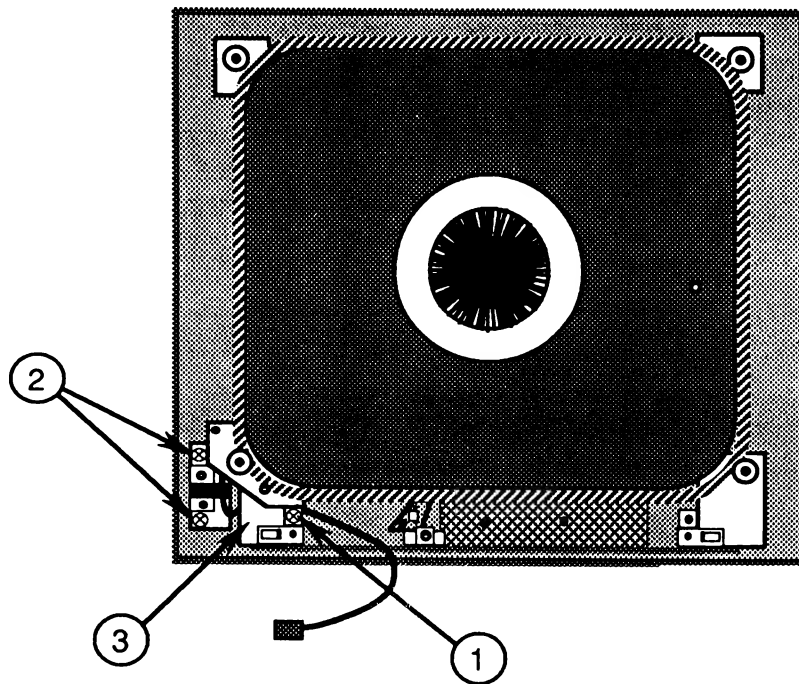

FIGURE 38
6. Remove the screw (Figure 38, #1) holding the LED board to the bezel. Lift out the LED.
7. Remove the two screws (Figure 38, #2) that secure the on/off switch to the bezel. Lift the on/off switch out.
8. Pull the on/off switch connector wire under the CRT mounting bracket (Figure 38, #3) to free the switch assembly.
3. Slide the on/off switch connector wire under the CRT mounting bracket (Figure 38, #3) and pull the wire until the switch meets its slot in the front bezel.
4. Replace the two screws (Figure 38, #2) that secure the on/off switch to the bezel.
5. Place the LED board in position in the front bezel, and replace the single screw (Figure 38, #1).